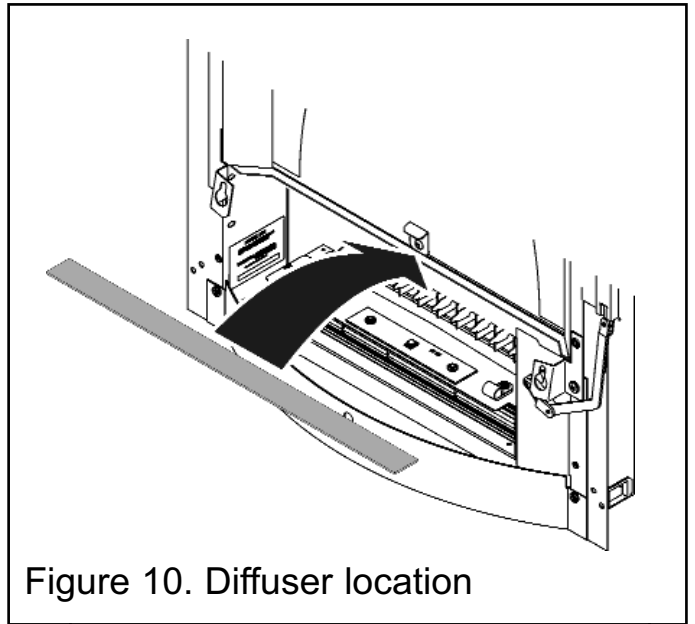

Figure 10. Diffuser location
1. There is a light diffuser supplied with the firefront (See figure 10). Place this on to the metal flange below the plastic screen.